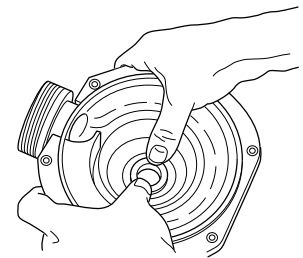

Figure 12
3. Press stationary half of seal into seal plate (Key No. 9) using finger pressure only (see Figure 12). Make sure seal is firmly and evenly seated.